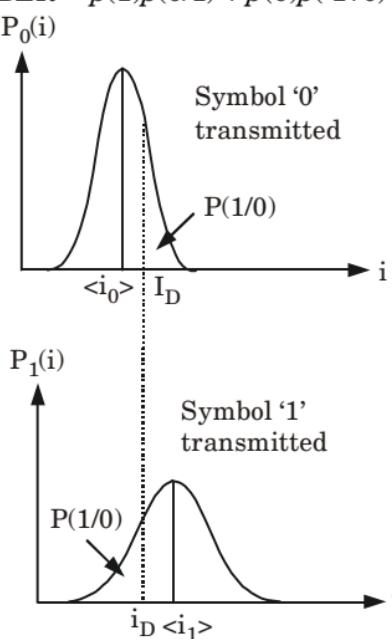

Fig. 24. Probability distributions of the photocurrent for the two transmitted symbols and selection of the decision thresholds.
6. Fig. 24 shows the probability distributions of the photocurrent for the two transmitted symbols.